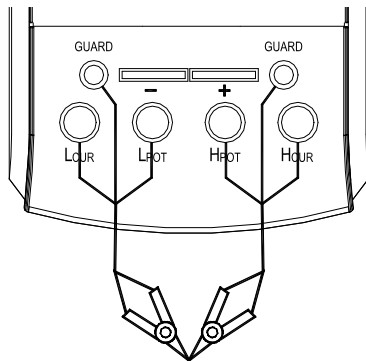

Figure 7
- b When using $L_{CUR}/L_{POT}/H_{POT}/H_{CUR}$ terminals, insert the black and red testing lines with alligator clip into the "L_{CUR}", "L_{POT}" terminal and "H_{CUR}", "H_{POT}" terminal respectively. Connect the mouth of clips. (shown in figure 7).